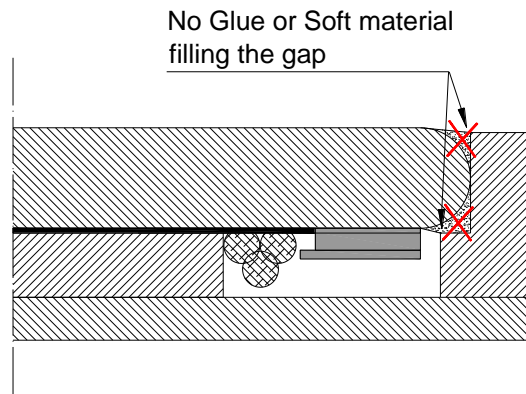

FIG.12 Don't fill the gap by glue or soft material 禁止用胶或软性物料填充縫隙
- If there is a rear frame as shown in FIG.12 below to support the Zero-bezel touch screen, don't use any glue or other soft material to fill the gap between touch screen and rear frame after assembly.
如有一个展示在下面 FIG.12 中的后框支撑触摸屏，禁止用胶或其他软性物料填充触摸屏和后框之间的缝隙。